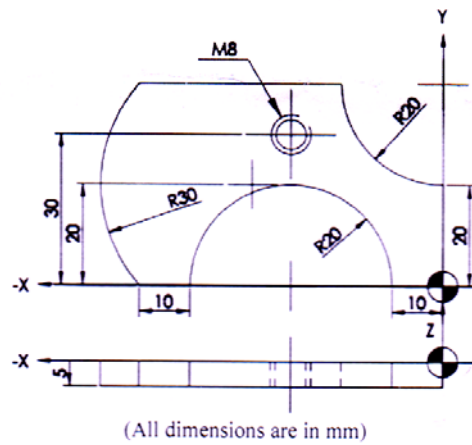

Fig. 2b
- Q2) a)** Differentiate between Numerical control Machine (NC) & Computerized Numerical control Machine (CNC). [6]
- b)** Write a CNC program for the part shown in Figure 2b. Assume suitable data. [12]